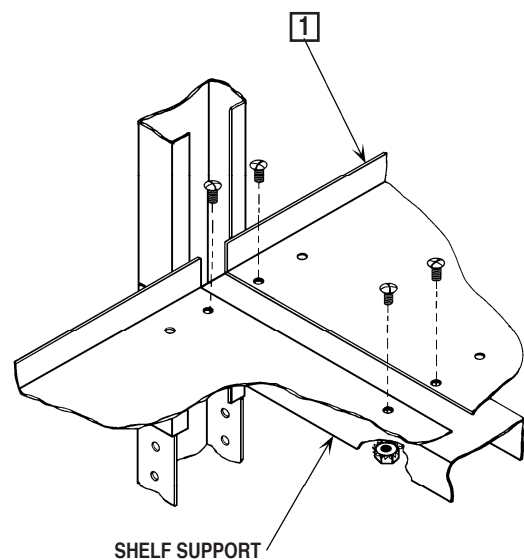

FIGURE 11
2. The two outer holes, in the shelf end that is on the common shelf support, are to be aligned with the two inner holes in the common shelf support. See Figure 11. Fasten shelf to the shelf supports with (4) screws and nuts (Items 2 & 3) as provided. Repeat procedure with the other shelf on the other side of the common shelf support.